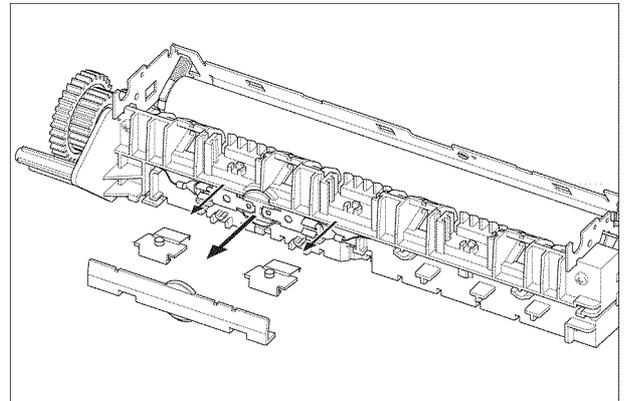

Figure 6
7. Remove the 2 spring place holders, then the thermostat cap, Figure 6